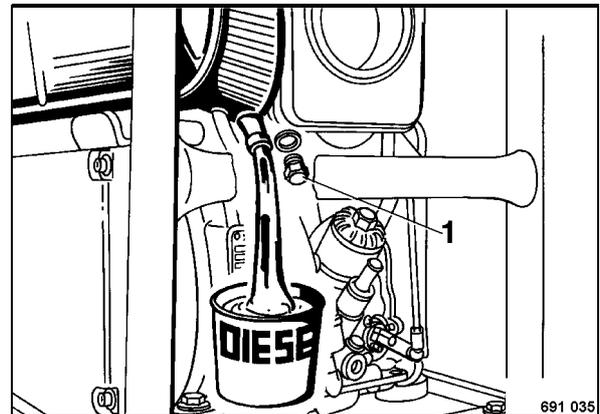

Fig. 59
- Unscrew the drain fitting 1 (Fig. 59) from underneath the fuel tank.